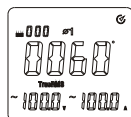

Figure 11-1
- 4) As shown in Figure 11-1, please press SELECT key to select the 1st phase location of ϕ 1 for three-phase four-wire system of load. It also can display apparent power, voltage and current of phase location of ϕ 1.